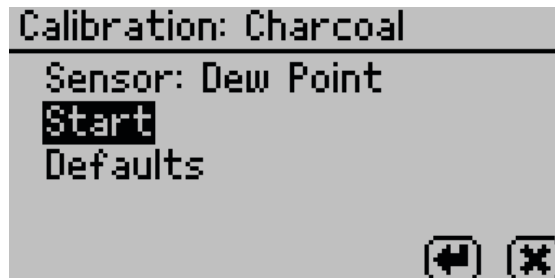

Figure 18 Start test
12. Chọn **Start** (Figure 18).